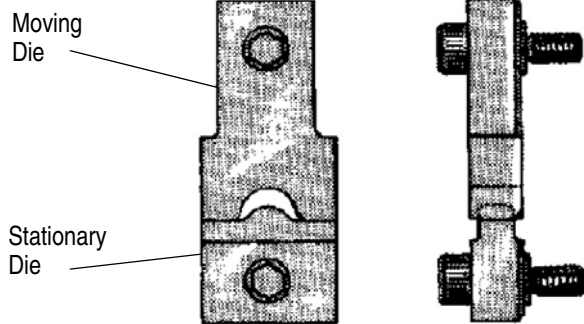

Figure 1
1. Refer to the table in Figure 1 and select the die number for the wire size being used. Wire size displayed on dies must match wire size stamped under terminal tongue.
1. Select the correct wire strip length from Figure 1. Do NOT use wires with nicked or missing conductor strands.